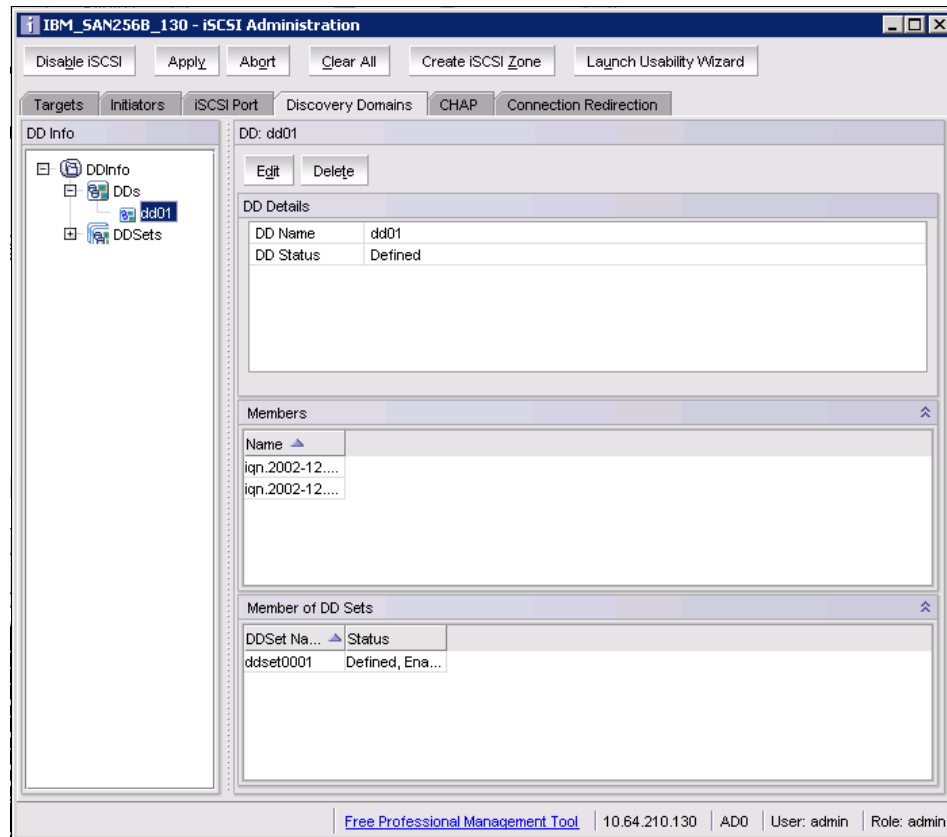

Figure 11-48 DD configuration
- To allow the targets to be discovered at the host, we must include the initiator in the dd001 DD. Go to the Discovery Domains tab. From here we expand the **DDs** listing and select **dd001**, as shown in Figure 11-48.